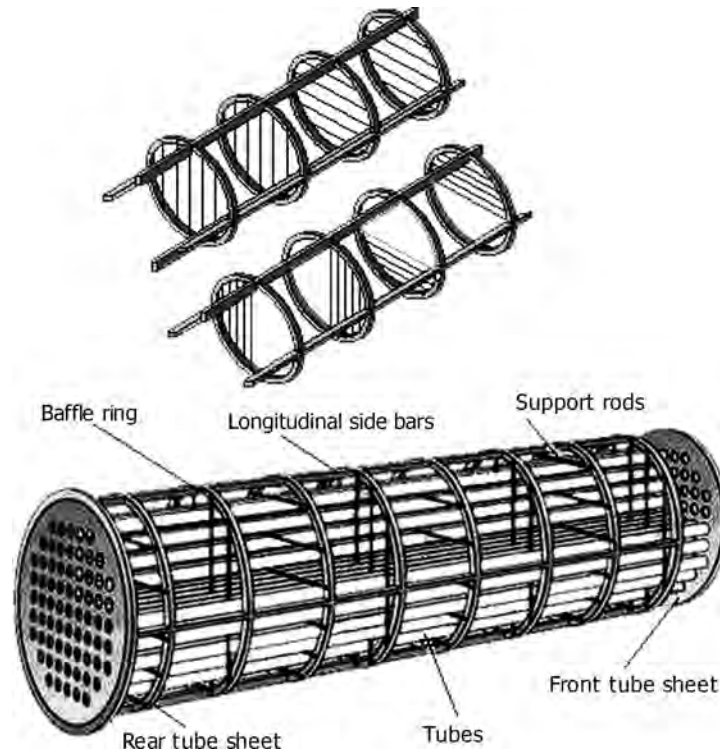

FIGURE 10.23 Rod baffles.
- *Rod Baffles*: Metal rods rather than sheet metal baffles are used to support tubes and flow in the shell is mainly parallel to tube axis (Figure 10.23).